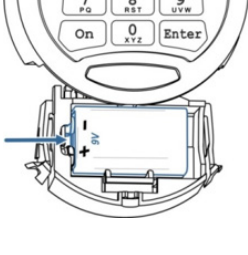

Fig. 5.2
- Disconnect the battery from the contact points on the right hand side, as shown in Fig.5.2.